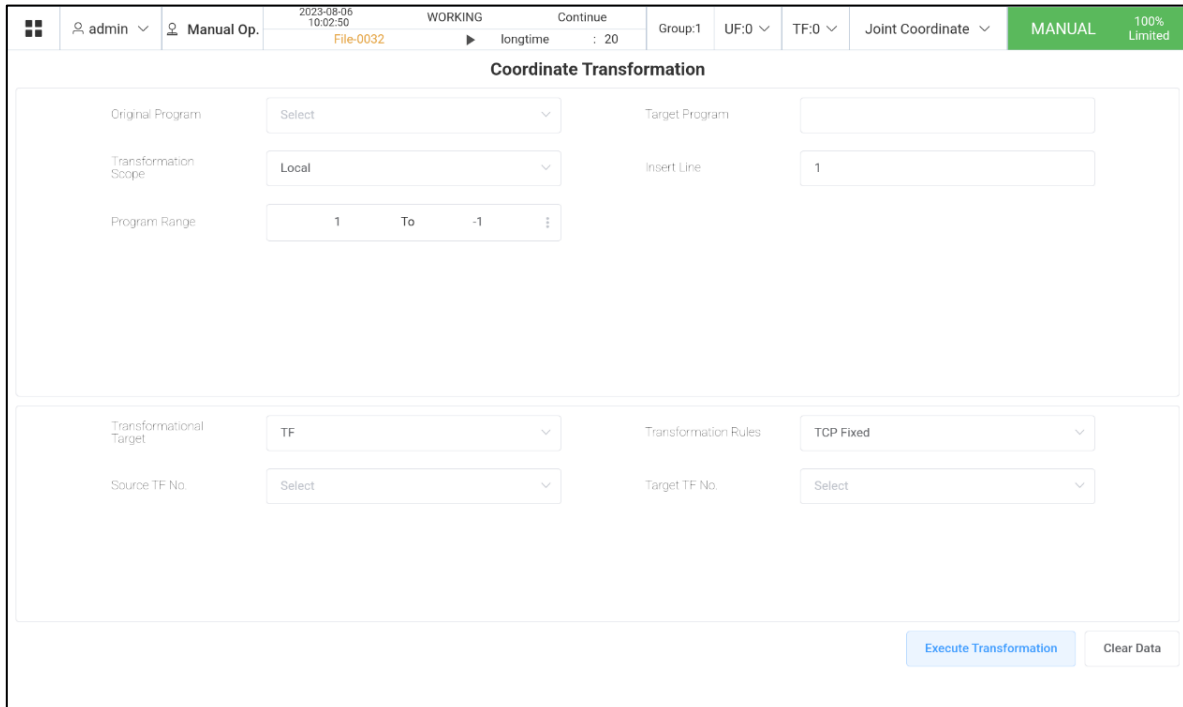

Fig. 2.34 Coordinate Transformation Interface
- 1) Click "Menu Button" → "Application" → "Coordinate Transformation" to enter the coordinate transformation interface, as shown in Fig. 2.34.